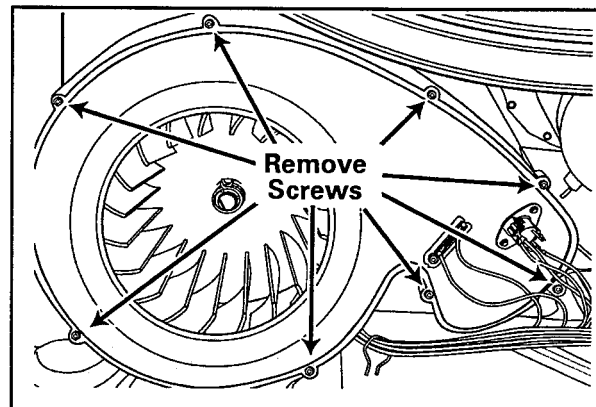

Figure 7-3
2. Remove eight screws holding cover to blower housing. *(See Figure 7-3)*